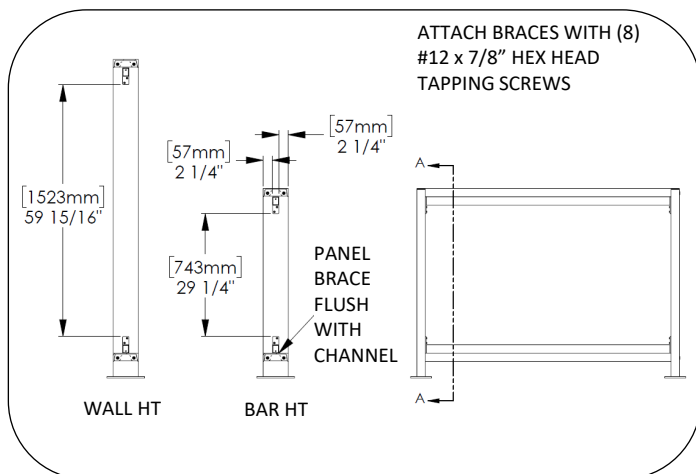
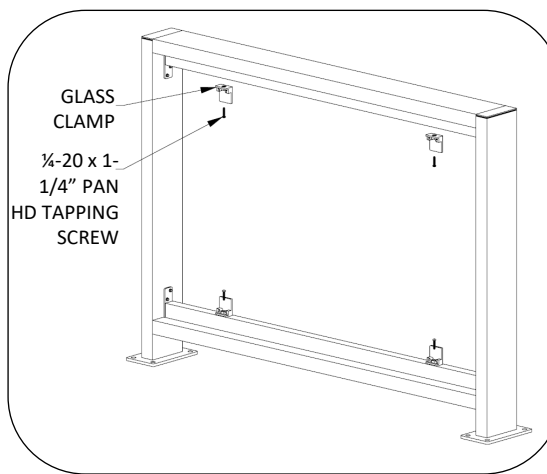
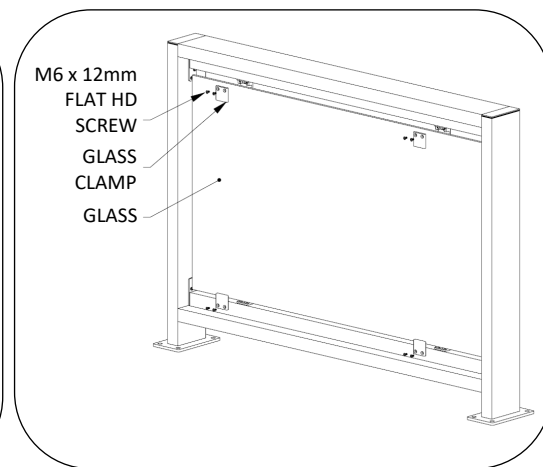

Fig. 7 – ATTACH GLASS PANEL BRACES
Fig. 8 – ATTACH GLASS CLAMPS
Fig.9 – INSTALL GLASS
- For glass wall panel, see Figs. 7, 8 and 9. Attach glass braces to posts. Attach larger half of glass clamp to braces, ensuring all clamps face to the same side and are parallel to the brace, see Fig. 8. Using proper glass handling equipment, position glass panel on clamps. Attach back half of clamps with screws provided, see Fig. 9. Do not overtighten.